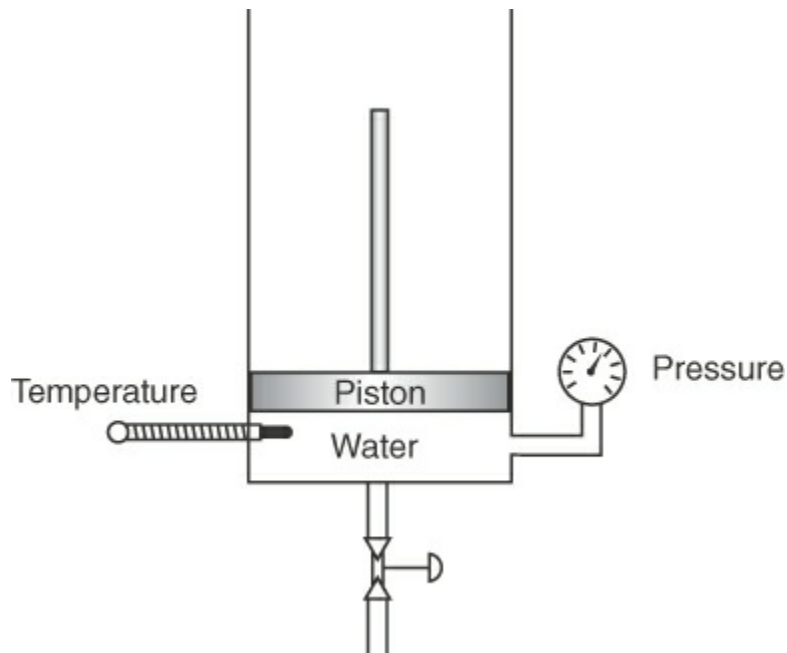
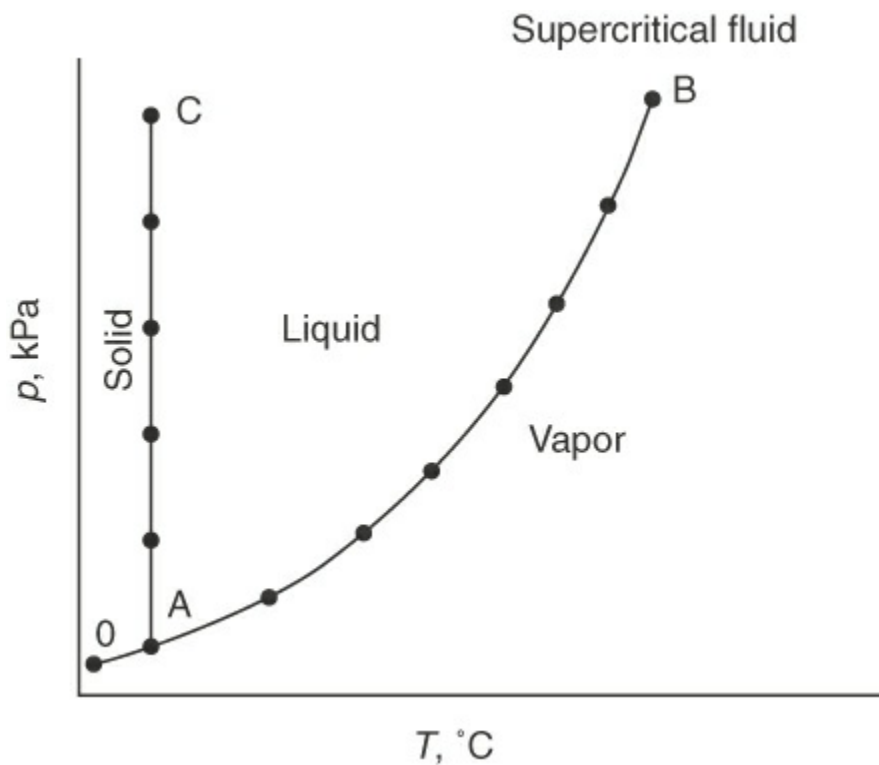
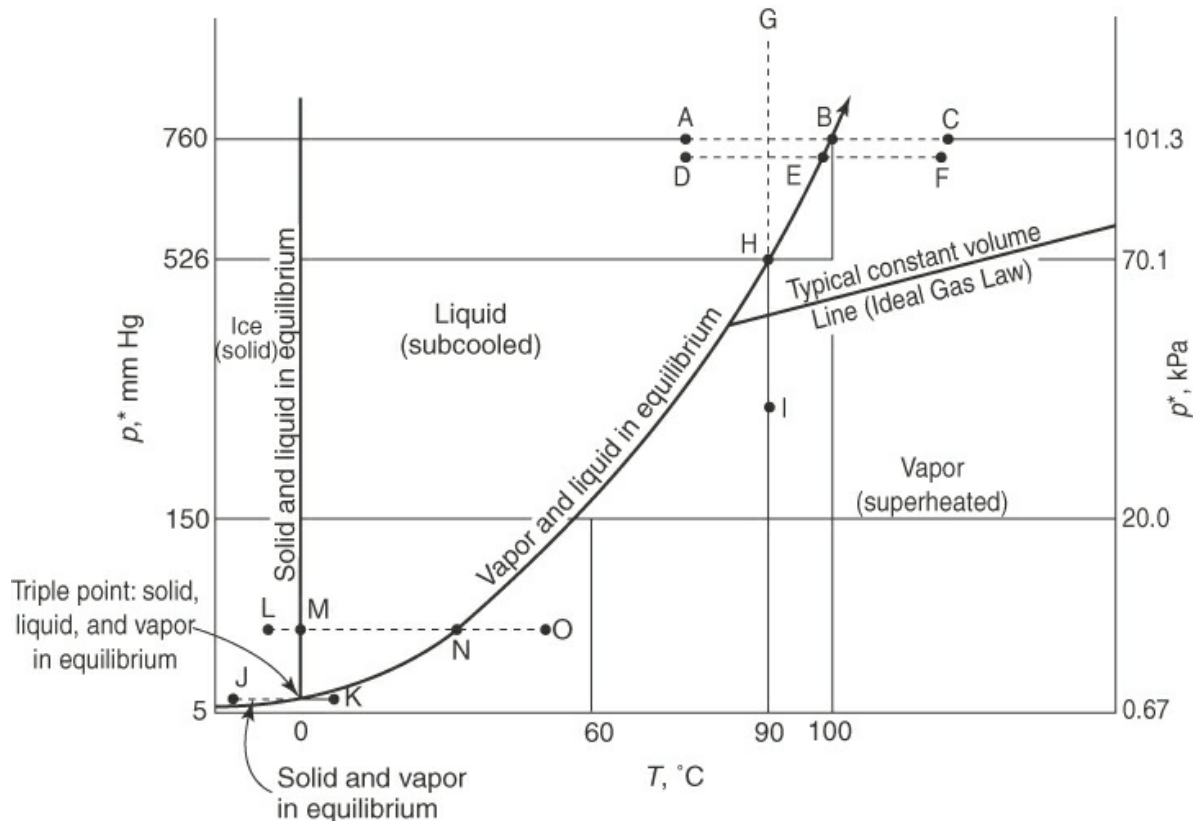

Figure 7.1 Apparatus used to explore the p , $\hat{V}$, and T properties of water
Figure 7.2 Results of the experiment of heating at constant volume shown on a phase diagram (p versus T at constant $\hat{V}$)
Figure 7.3 Various common processes as represented on a p^*-T diagram
Suppose you carry out some experiments with the apparatus shown in Figure 7.1. Place a lump of ice in the chamber below the piston, and evacuate the chamber to remove all air (you want to retain only pure water in the chamber). Fix the volume of the chamber by fixing the position of the piston, and start slowly (so that the phases of water that result will be in equilibrium) heating the ice. If you plot the measured pressures as a function of temperature, you will get Figure 7.2, a phase diagram in which all of the measurements made have been fitted by a continuous smooth curve for clarity.
The initial conditions of p and T in the chamber are at point O in Figure 7.2 with the solid in equilibrium with the vapor.
We next take up some terminology associated with processes that are conveniently represented on a p^*-T phase chart such as Figure 7.3 (in the definitions of terms that follow, the letters in parentheses refer to the corresponding process denoted in Figure 7.3 by the same sequence of letters):
- **Supercritical region:** p - T values above the critical point (not shown in Figure 7.3).
In Figure 7.3, the process of evaporation (A to C) and condensation (C to A) of water at 1 atm is represented by the line ABC with the phase transformation occurring at 100°C. Suppose that you went to the top of Pikes Peak and repeated the process of evaporation and condensation in the open air. What would happen then? The process would be the same (points DEF) with the exception of the temperature and pressure at which the water would begin to boil, or condense. Since the pressure of the atmosphere at the top of Pikes Peak is lower than 101.3 kPa, the water would start to boil at a lower temperature. Some unfortunate consequences might result if you expected to kill certain types of disease-causing bacteria by boiling the water! In addition, it will take longer to cook rice at that elevation due to the lower boiling point for water at higher elevations.
A pure compound can change phase at constant volume from a liquid to a vapor, or the reverse, via a constant temperature process as well as a constant pressure process. A process of **vaporization**, or **condensation, at constant temperature** is illustrated by the lines GHI or IHG, respectively, in Figure 7.3. Water would vaporize or condense at constant temperature as the pressure reached point H on the vapor-pressure curve. The change that occurs at H is the increase or decrease in the fraction of vapor, or liquid, respectively, at the fixed temperature. The pressure does not change until all of the vapor, or liquid, has completed the phase transition.
Then, as the piston still rises (i.e., as $\hat{V}$ increases), both the pressure and temperature remain constant until all of the liquid is vaporized by point B on the saturated vapor line. Subsequently, starting from point B, as the pressure reduces, the value of $\hat{V}$ can be calculated via an ideal or real gas equation. Compression at constant T_2 is just a reversal of the process at T_1 . The dots in Figure 7.4 represent just the measurements made when saturation of liquid and vapor coexist and are deemed to form the envelope for the **two-phase** region that from a different angle appears in Figures 7.2 and 7.3 as the vapor-pressure curve. The two-phase region (e.g., A to B or D to C) represents the conditions under which liquid and vapor can exist at equilibrium. Note from Figure 7.4 the discontinuous change in the specific volume in going from a liquid to a solid at the triple point. In other words, water expands when it freezes, and this is why ships trapped in the polar ice can be crushed by the force of the expanding ice. By comparing Figures 7.3 and 7.4, you can see that lines AB and CD in the $p-\hat{V}$ phase diagram (Figure 7.4) correspond to a single point each in the $p-T$ diagram (Figure 7.3).
Figures 7.3 and 7.4 can be reconciled by looking at the three-dimensional surface that illustrates the $p-\hat{V}-T$ (see Figure 7.6).
dimensional representation because a vapor and liquid at equilibrium are at the same temperature (see Figure 7.6). Figure 7.3 thus proves to be a portion of the complete region shown in Figure 7.6.